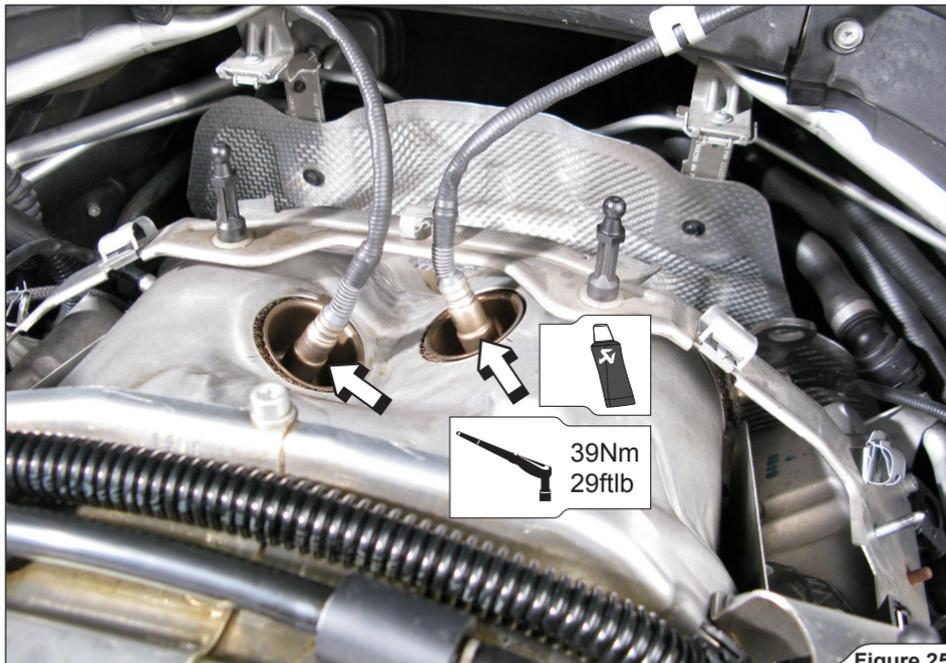

Figure 25
5. **For optional Down Pipes only:** replace all dismantled original parts in the reverse order from the order in which they were removed. Check vehicle manufacturer manual for tightening torques. Make sure everything is in place and all bolts tightened (**Figure 25**).